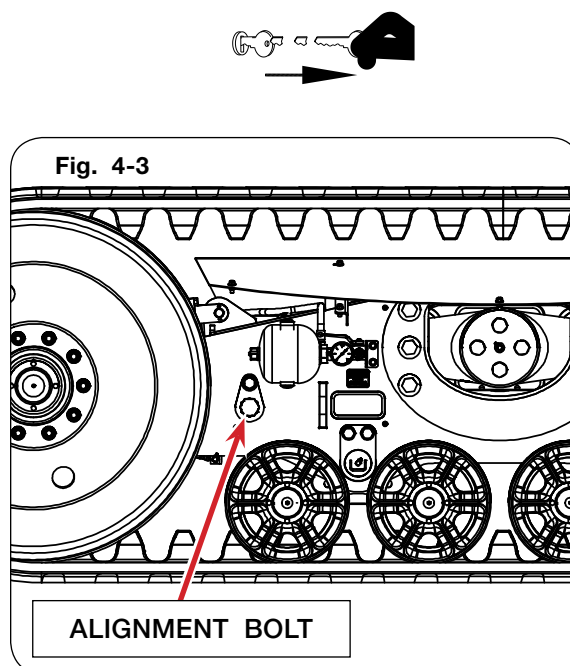

Fig. 4-3
5. Remove the bolt retainer plate (282771B) and hardware. Retain these for reassembly. See Fig. 4-3.
6. Adjust the alignment bolt (267791 - 50" Tracks; 9006454 - 42" Tracks) in 1/2 turn increments. See Fig. 4-3.